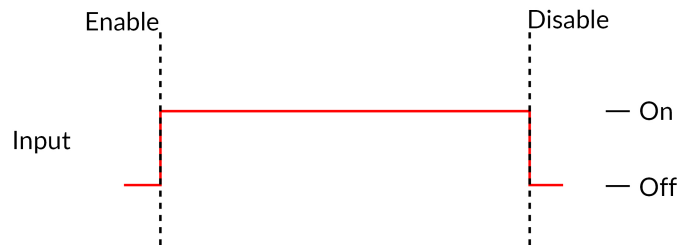

Figure 3.3: Constant Current Mode Driver Signal
a) The **Continuous Wave** mode (Fig. 3.3) produces a continuous signal at the chosen current. This mode can only be triggered manually. When this mode is active, the driver channel will show **CW** under **MODE**. This mode has no additional sequence options.